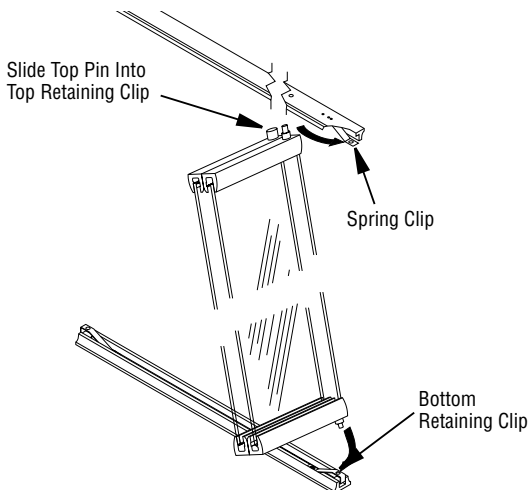

Figure 40 - Installing Doors
1. With bi-fold doors completely folded, insert bottom pivot pin into bottom retaining clip located at far left and far right side of bottom rail. Swing door to vertical position making sure top pins slide into top door rail. Door is installed when top door pin snaps into spring clip (see Figure 40).